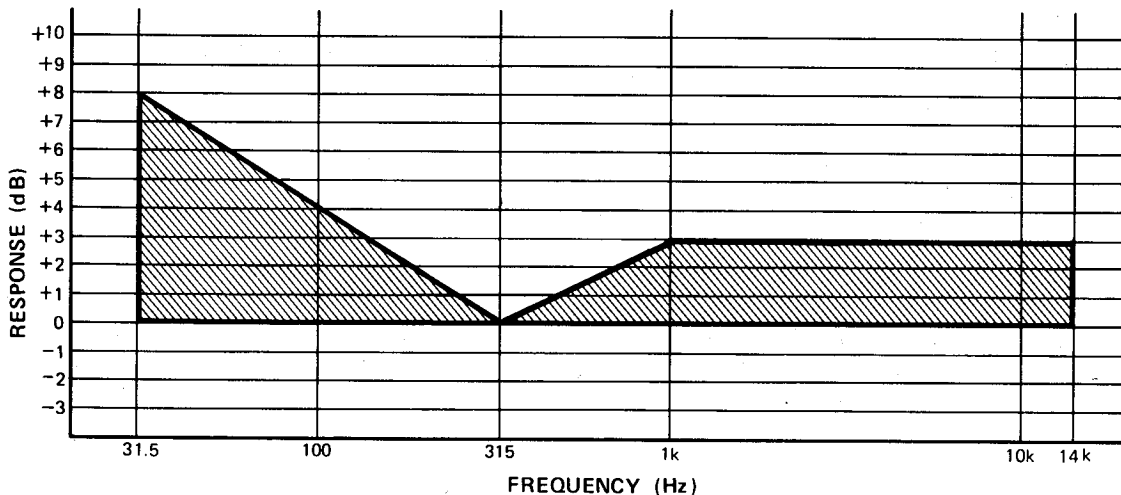

Fig. 2
3. Play back the test tape and adjust VR101 (left), VR102 (right) so that the playback frequency response is within the range as shown in Fig. 2.